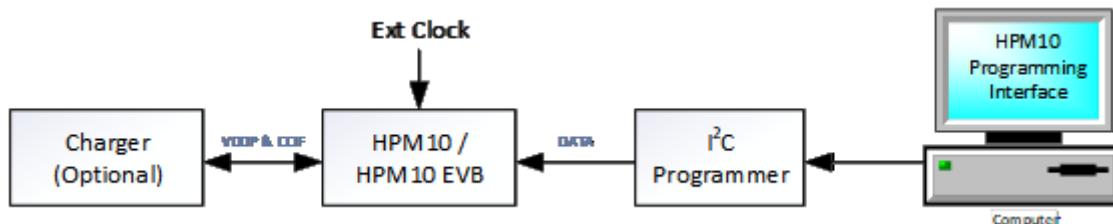
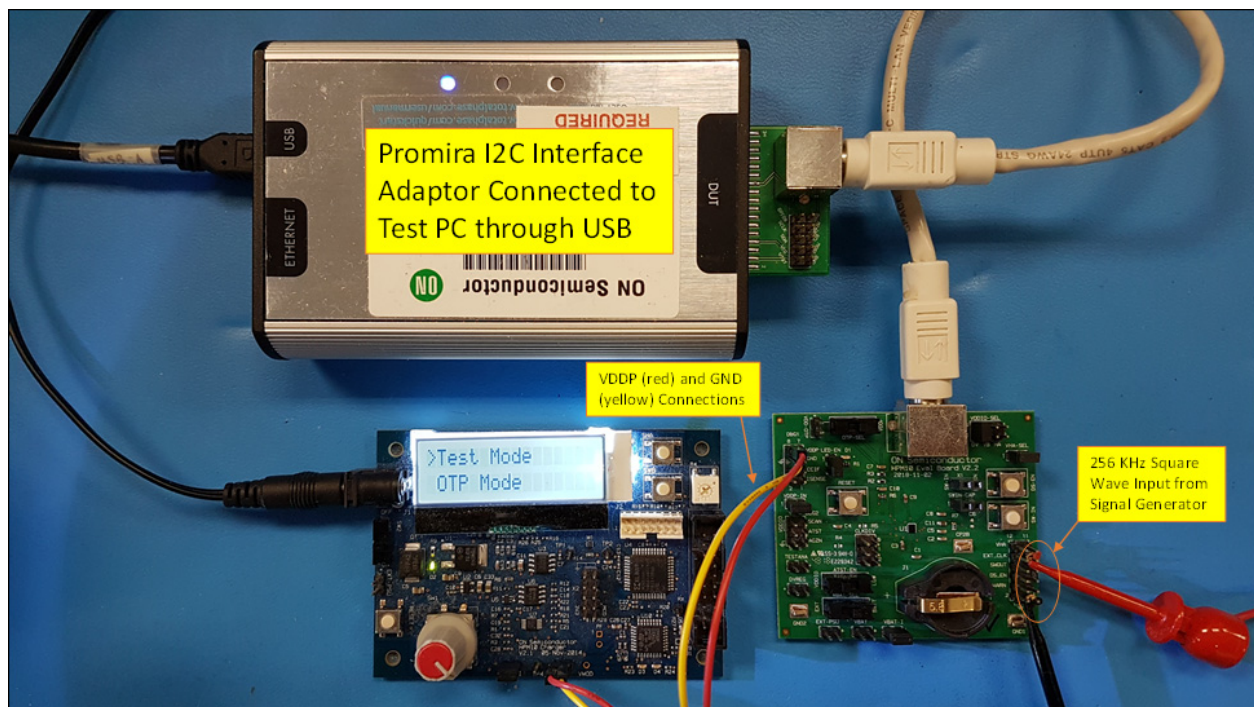

Figure 1. Connection Setup for HPM10 OTP Testing and Programming
Figure 4. HPM10 Hardware Setup for Battery Charge Test
Connect the Windows PC, I²C programmer and HPM10 EVB as shown in Figure 1 below:
- Connect the HPM10 EVB and charger as shown in Figure 1. A picture of the physical setup is shown in Figure 4 below: